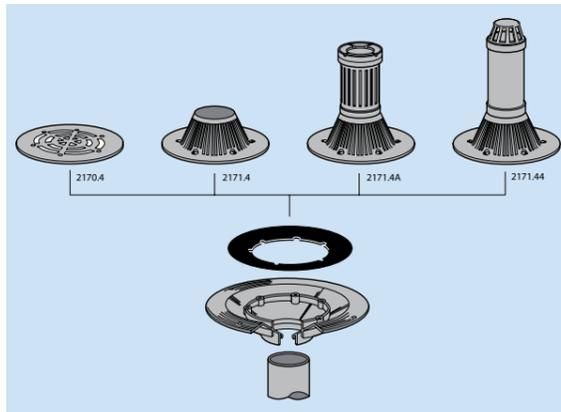

Fig.32
- I Offer up selected grid (see Fig.32 for alternative grids) check correct angle of dressing and engagement of screws
- I Secure grid and washer with screws supplied (see Fig.32 for alternative grids)